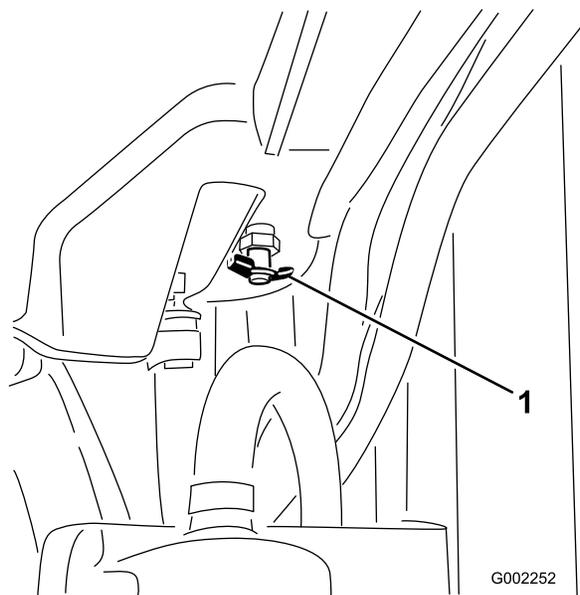

Figure 101
4. Open the drain valve and drain the coolant into the pan (Figure 101).
5. Close the drain valve (Figure 101).